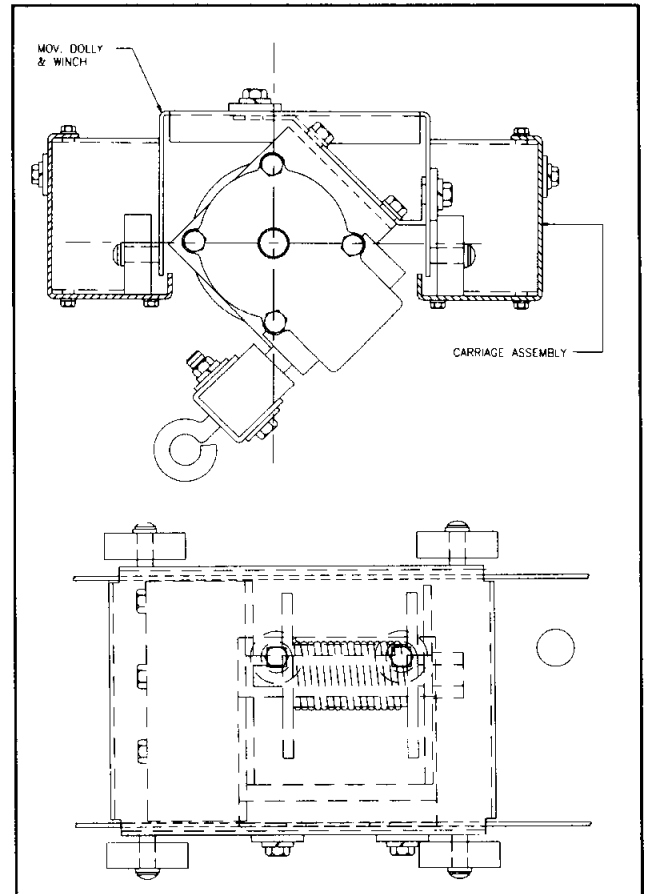

Fig. 35 *Carriage And Winch Installed*
5. Install the winch on the carriage assembly. The orientation of the winch can be to either end of the switchboard assembly (Figure 35).